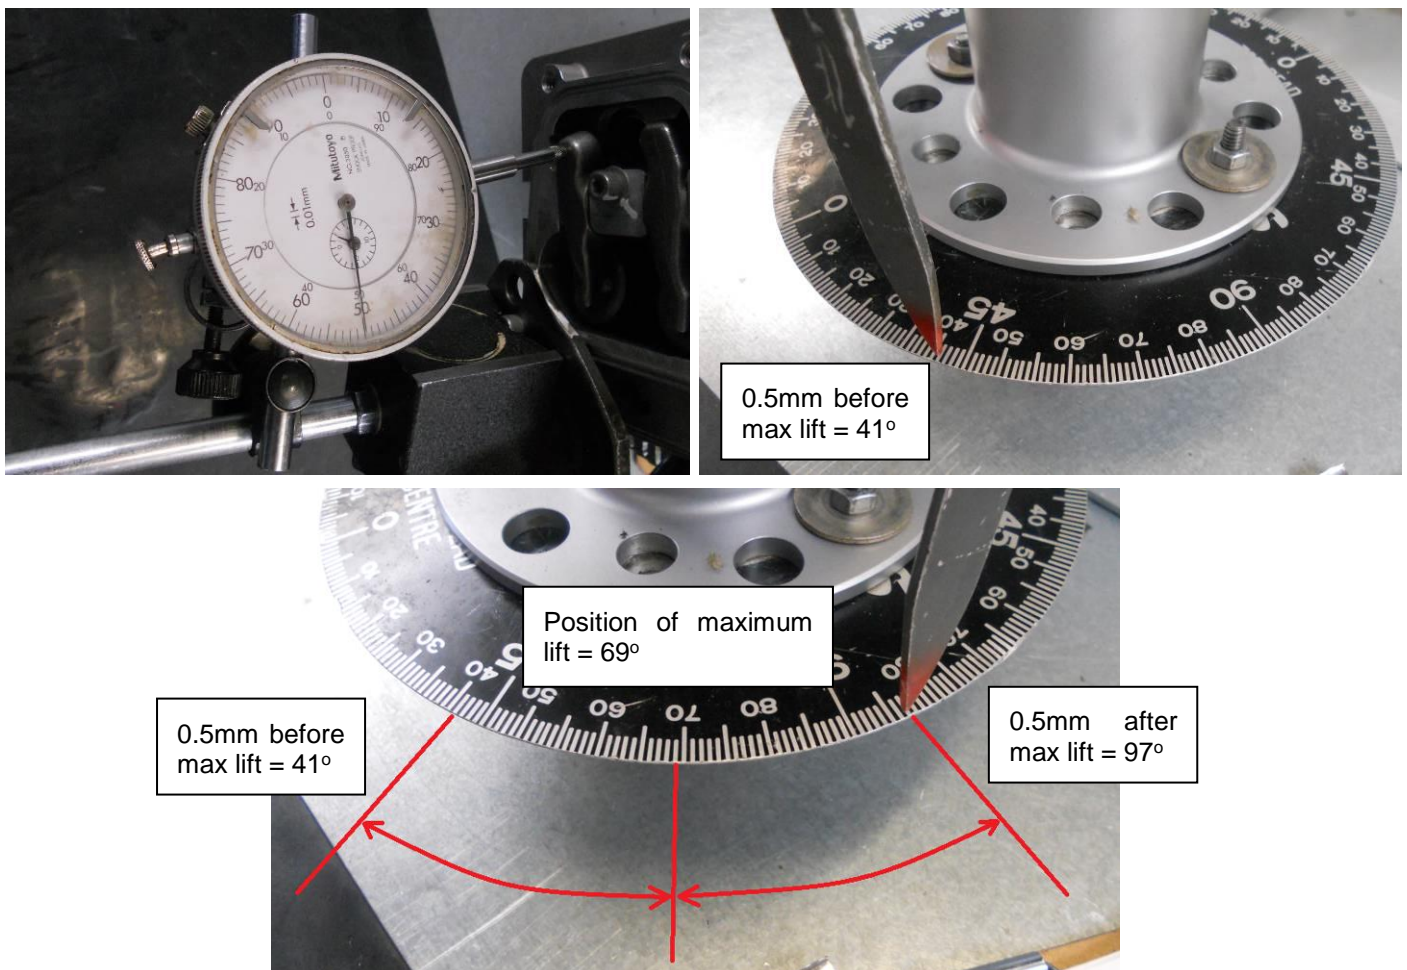

Figure 119 - Locating the position of maximum lift for the exhaust lobe on number 1 cylinder
- The position of maximum lift is equidistant between the two angles indicated at 0.50mm before and after maximum lift. Figure 119 shows an example.